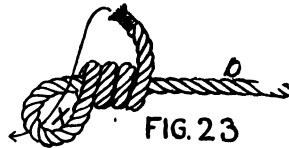
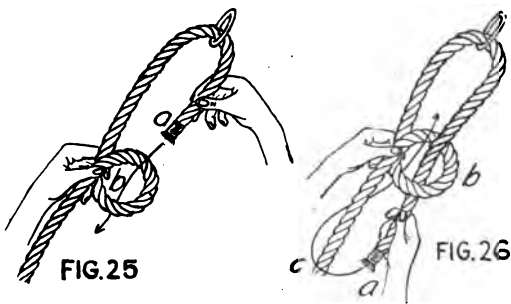

FIG. 23
FIG. 24
**Stevedore Knot.** The stevedore knot like the figure eight, is used to prevent ropes from pulling through pulleys or holes. It is made in the same manner as the figure eight but instead of making one turn around the standing part *b*, three turns are made as shown in fig. 23. The end is then passed back through the loop as shown by the direction of the arrow in fig. 23. The standing part of the rope *b* is then drawn until the loop *x* is taut (fig. 24).